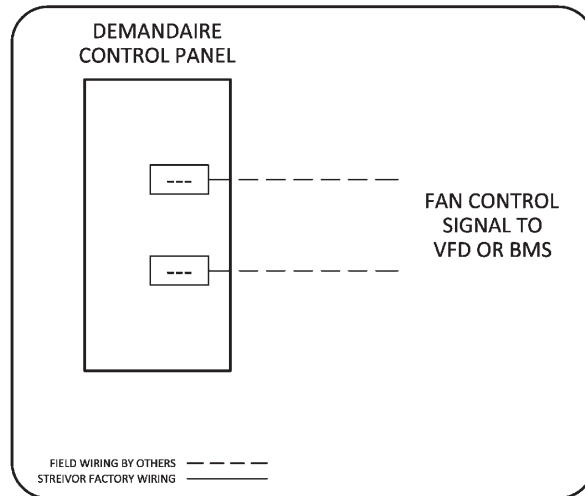

FIGURE 2: Fan Control Signal Wiring
- Connect the terminal blocks in the control panel designated for the 4-20mA or 0-10VDC fan control signals to the appropriate external destination (*Figure 2*) (i.e. VFDs, BMS, EC Motors, VAV, etc.)